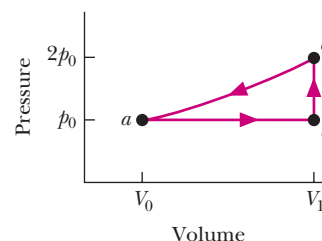

Fig. 20-24 Problem 14.
•14 (a) For 1.0 mol of a monatomic ideal gas taken through the cycle in Fig. 20-24, where  $V_1 = 4.00V_0$ , what is  $W/p_0V_0$  as the gas goes from state  $a$  to state  $c$  along path  $abc$ ? What is  $\Delta E_{\text{int}}/p_0V_0$  in going (b) from  $b$  to  $c$  and (c) through one full cycle? What is  $\Delta S$  in going (d) from  $b$  to  $c$  and (e) through one full cycle?